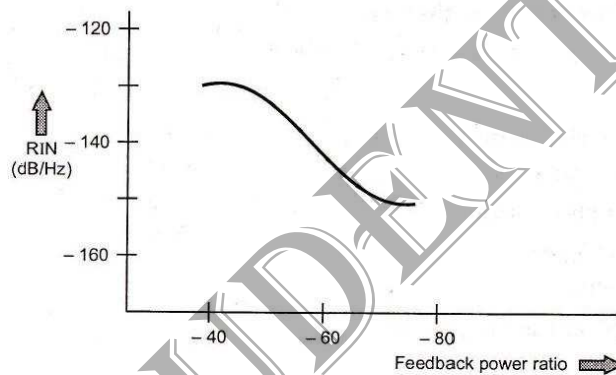

Fig. 6.1.2 Feedback power ratio (dB)
- x The optical reflections generated within the systems are to be minimized. The reflected signals increases the RIN by 10 – 20 dB. Fig. 6.1.2 shows the effect on RIN due to change in feedback power ratio.